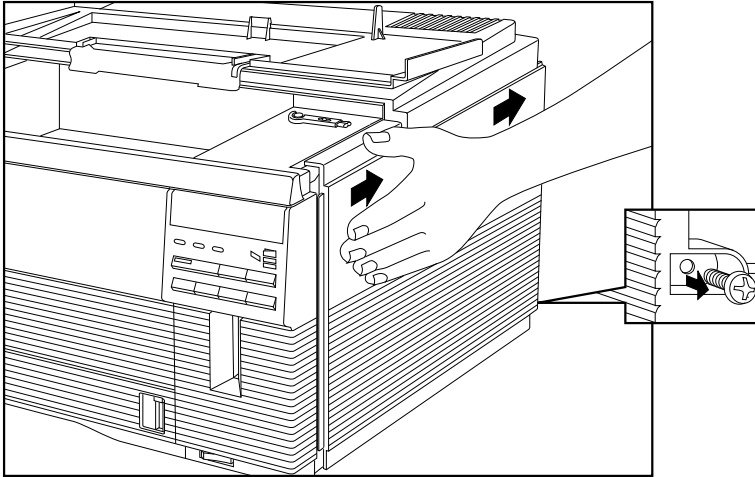

Fig. 9.8 Remove the Securing Screw and Slide the Side Cover Back
4. Locate and remove the side cover securing screw located on the back of the printer just below and to the left of the interface plate (fig. 9.8).
5. Slide the side cover toward the back of the printer (fig. 9.8).